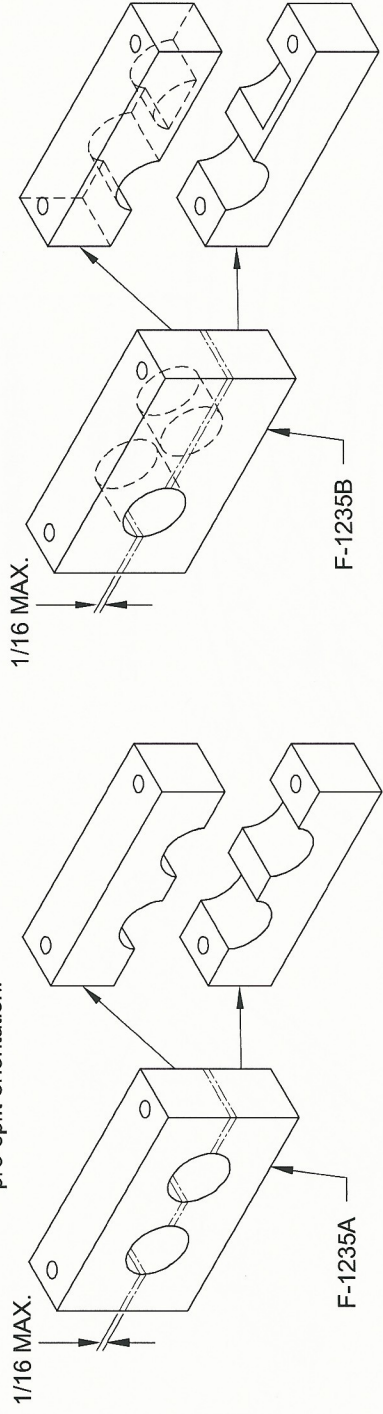

FIGURE 1: SPLITTING THE INBD AND OUTBD RUDDER PEDAL BLOCKS
Step 1: Split the F-1235A Inbd Rudder Pedal Block and the two F-1235B Outbd Rudder Pedal Blocks as shown in Figure 1. Mark the split parts so that they remain together and so that they can be assembled in their original, pre-split orientation.